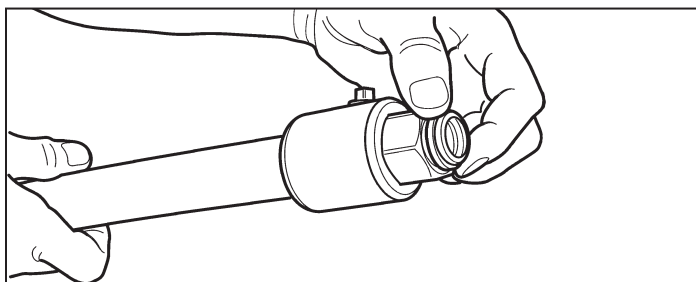

Figure: 4-58
- Remove the adapter and split rings from the fitting. Attach the adapter to the equipment. Slip the coupling and nut over the end of the pipe all the way to expose the first corrugations of the pipe. Insert split rings into the first corrugation as shown (Figure 4-58).